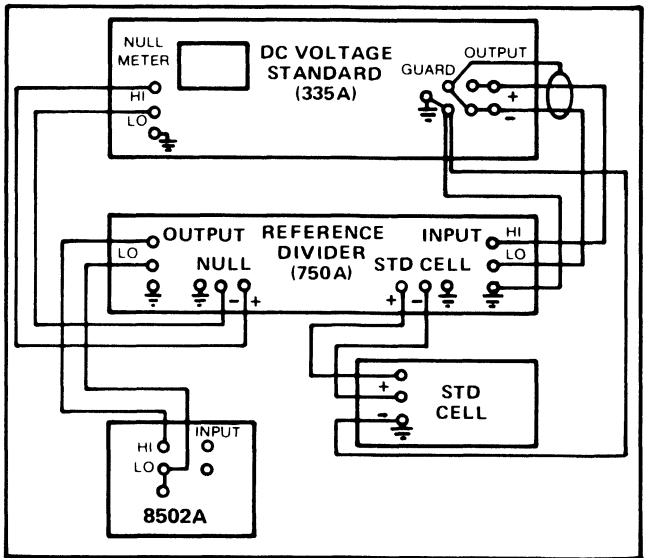

Figure 4-2. Connections For High Range DC Voltage Tests
1. Connect the equipment as shown in Figure 4-2.